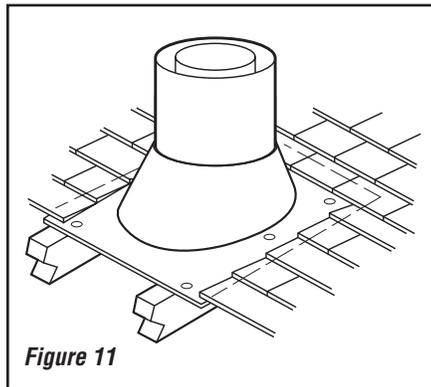

Figure 11
Step 7. Secure flashing by nailing along the perimeter into roof using 8d nails or equivalent fasteners. If shingled roof, slide upper end and sides of roof flashing under shingles (trim if necessary), seal the top and both sides of the flashing to the roof with roof caulking. Cover fastener heads with roof caulking (**Figure 11**).